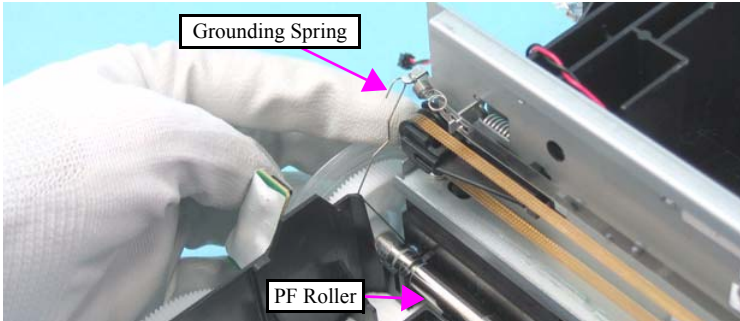
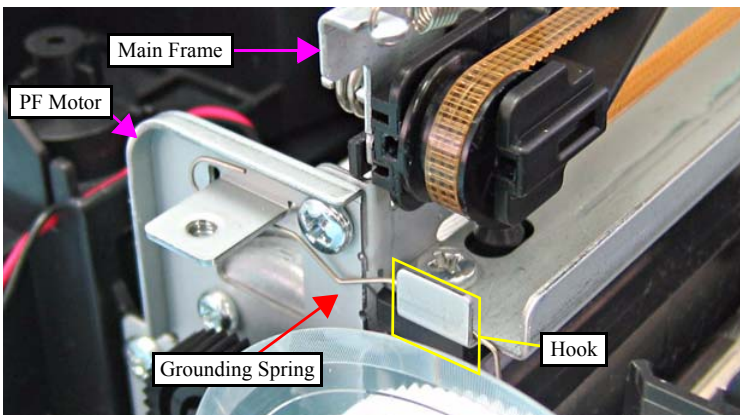

Figure 4-70. Installing the Grounding Spring (1)
Figure 4-71. Installing the Grounding Spring (2)
- Be sure to install the Grounding Spring referring to Figure 4-70 and Figure 4-71.